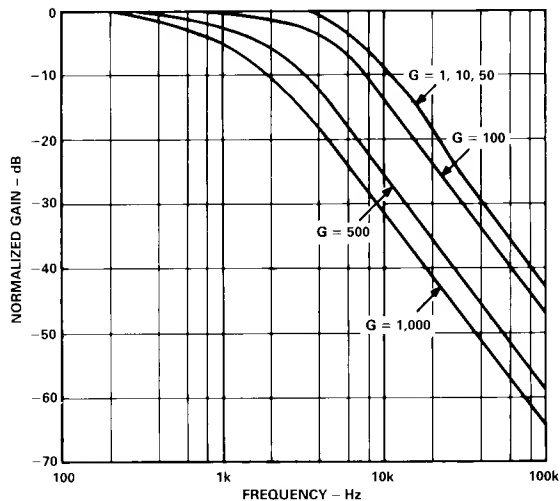
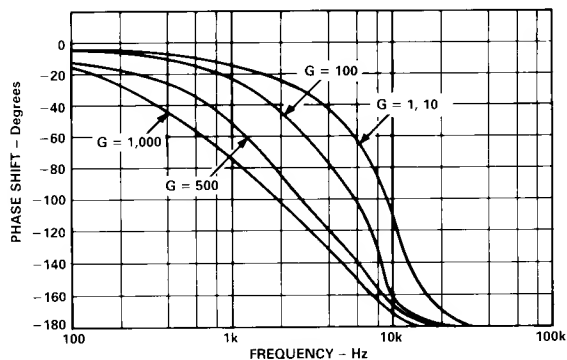

Figure 14. Normalized Gain (dB) as a Function of Input Signal Frequency (Hz)
Figure 15. Phase Shift (Degrees) vs. Input Signal Frequency (Hz)
**Frequency Response: Gain and Phase Shift.** Figure 14 characterizes the AD208's gain as a function of frequency, while Figure 15 illustrates the corresponding phase shift versus frequency.